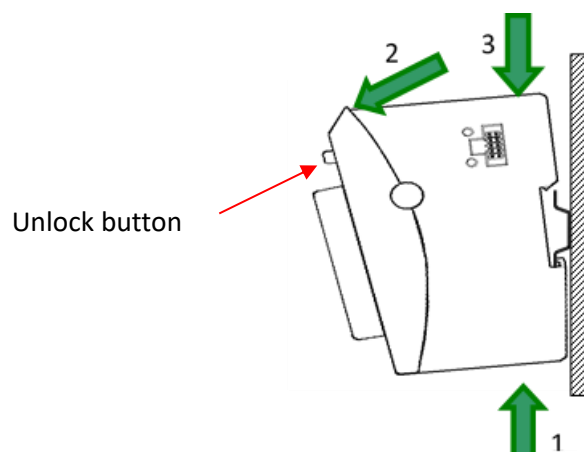

Figure 4: Uninstalling a module
- Push down the unlock button (see Figure 4) of the module that you wish to disconnect from the module to the left of it.